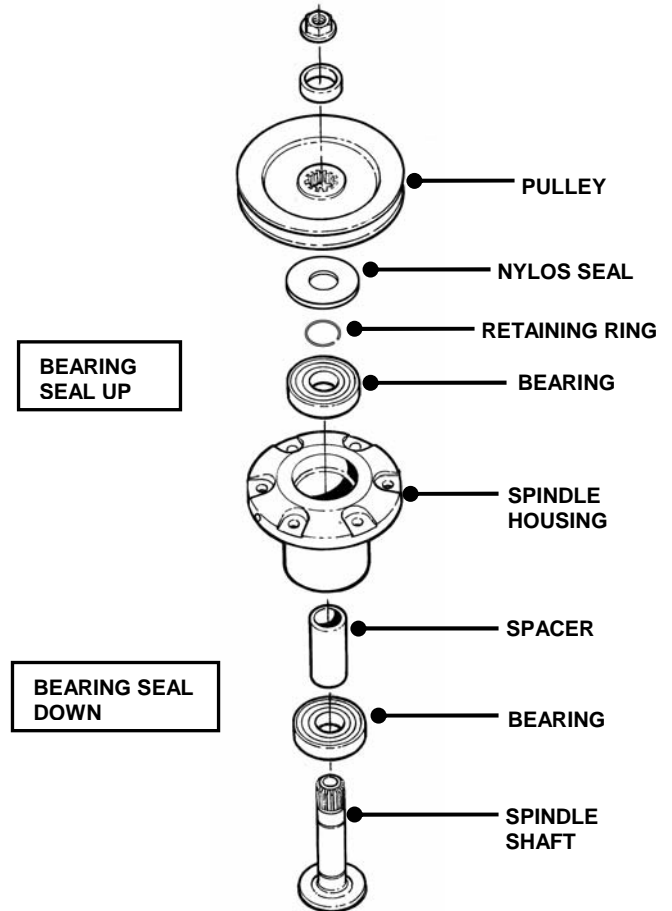

FIGURE 5.11
4. Top and bottom bearings are now removable. Pull out on inner race to slide bearing from housing. See Figure 5.11.